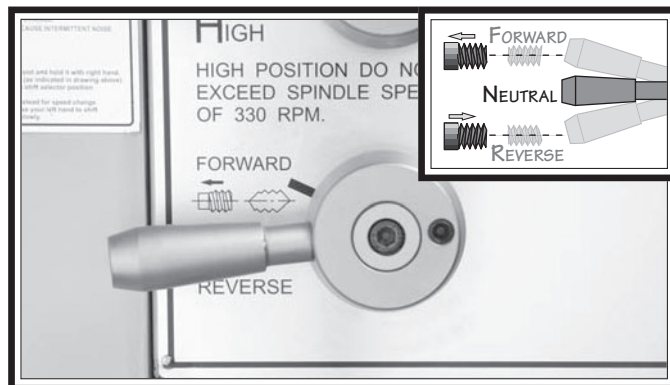

Figure 20. Feed direction forward/reverse lever in the neutral position.
9. Move the feed direction forward/reverse lever to the middle (neutral) position, as shown in **Figure 20**.